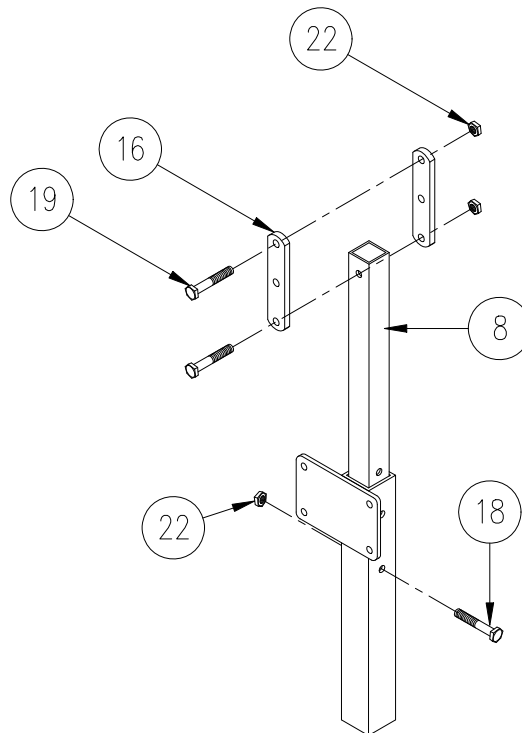

Figure 2-1.
1. Refer to **Figure 2-1**. Loosely attach 2 three-hole plates (16) to the top hole of each canopy support tube with the hardware shown. Insert the opposite end of canopy support tube (8) into top of vertical leg of lift. Adjust canopy support tube to a position that is most suitable for your boat lift installation and fasten in place. Perform this assembly for each vertical leg.